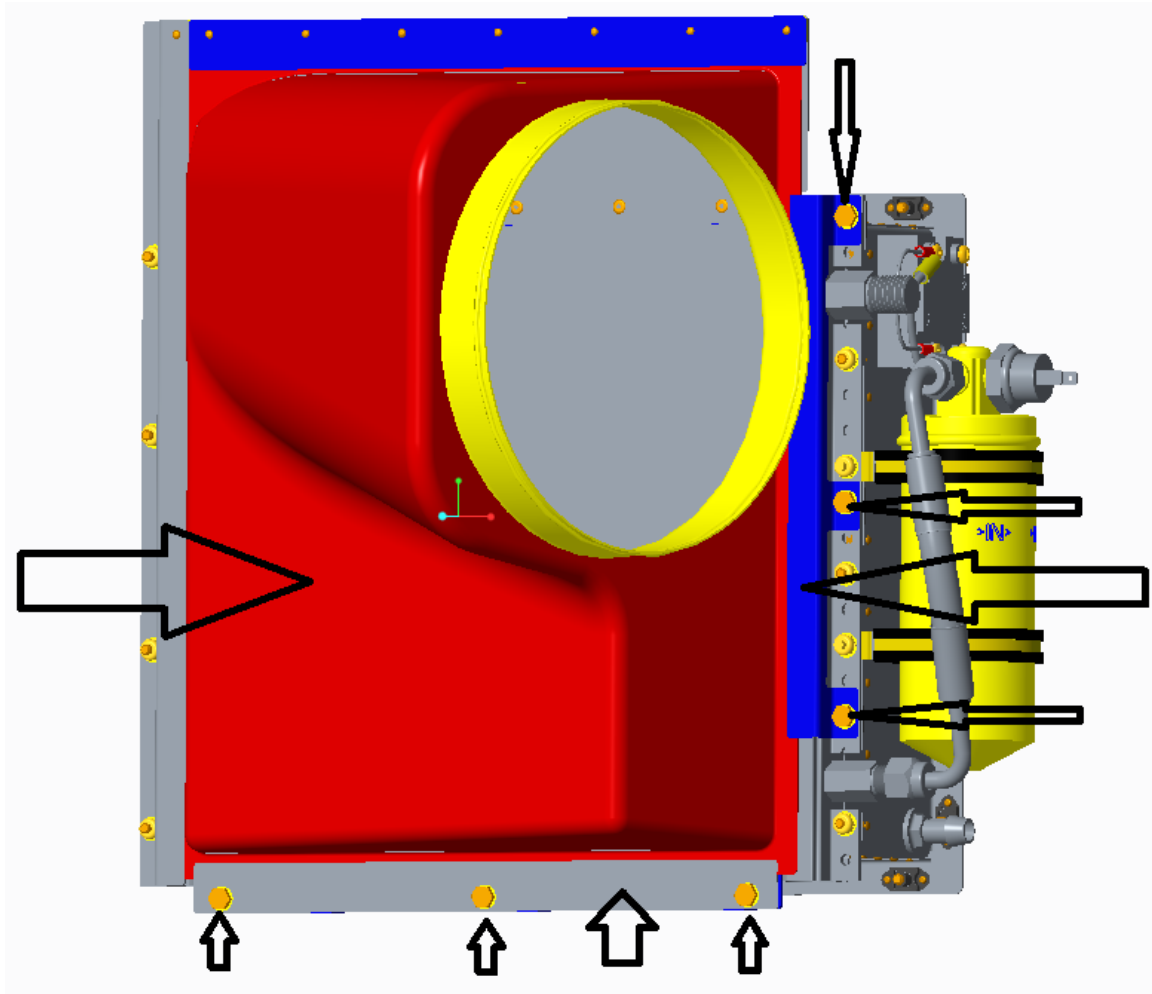

Figure 18 – Plenum Removal
- 1) The entire AC-02133 Condenser Plenum Assembly may be too bulky to fit past all the cables and controls in the back. If required, remove the plenum cover from the rest of the assembly by removing the (6) bolts shown in Figure 18 below. Remove the bottom and right side bracket next. Then slide the plenum assembly out.